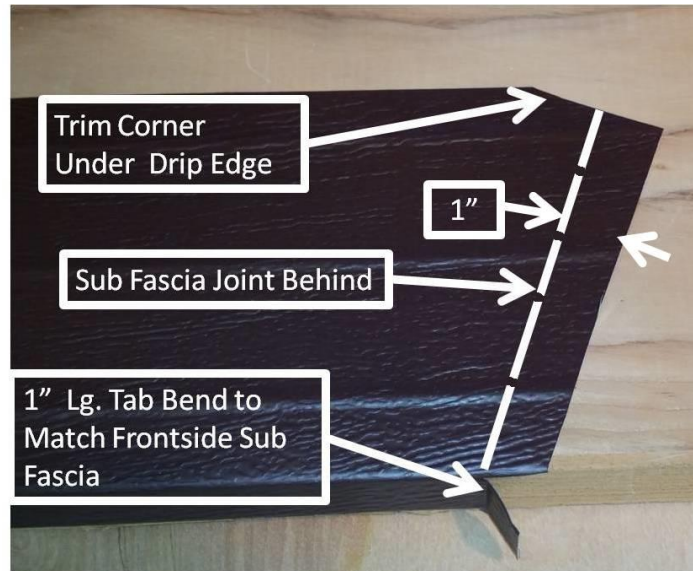

Figure 11-16. Gable Peak Back Side Fascia
13. Cut the flange and trim the top corner as shown on Figure 11-16, and bend the tab to match the front-side gable angle. This small tab will cover the bottom of the joint and the top corner is trimmed to prevent any interference with the drip edge.